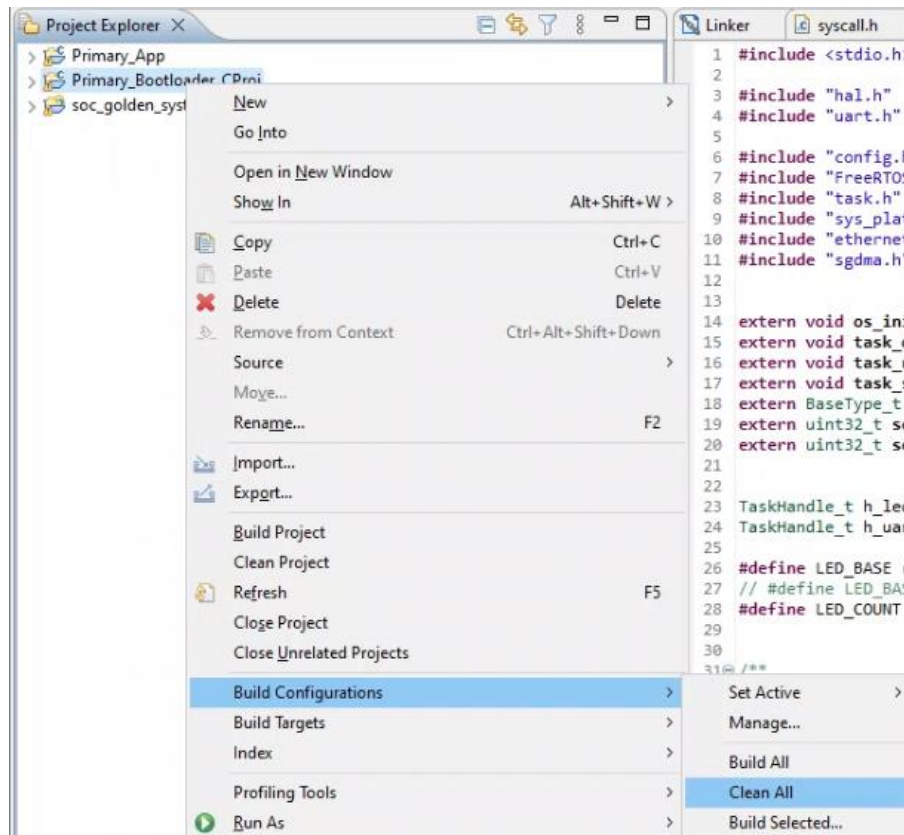
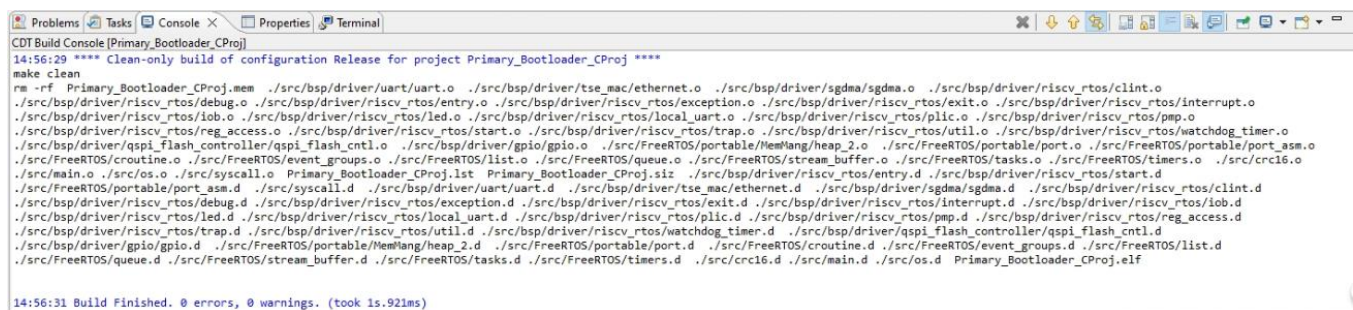

Figure A.6. Clean All Configurations
Figure A.7. Console
1. Right-click on the firmware project folder *Primary_Bootloader_Cproj* and select the option as shown in Figure A.6 to clean the project before building.
- After selecting the option as shown in Figure A.6, wait for the process to complete. After completion, a message appears in the console as shown in Figure A.7.